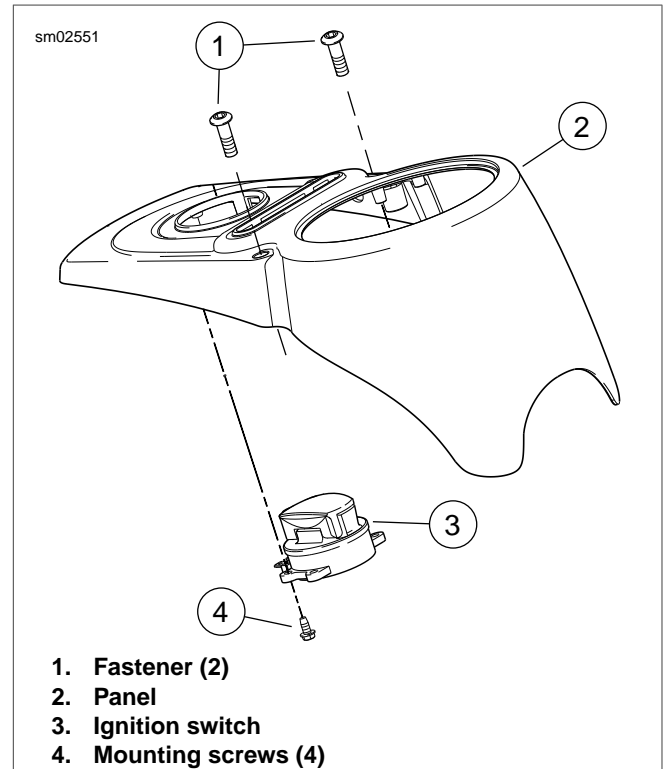

Figure 7-16. Ignition Switch: FXDC, FXDF
3. See Figure 7-16. Remove fasteners (1) from instrument panel (2) and remove panel. Note position and color of the switch wire connectors. Disconnect wires.
4. Remove mounting screws (4). Replace switch (3).